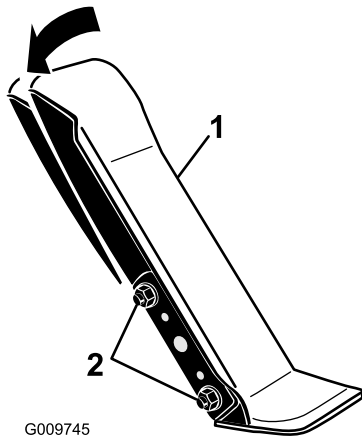

Figure 71
1. Loosen the 2 nuts and bolts securing the left side of the traction pedal to the bracket (Figure 71).
2. Pivot the pedal to the desired operating angle and tighten the nuts (Figure 71).